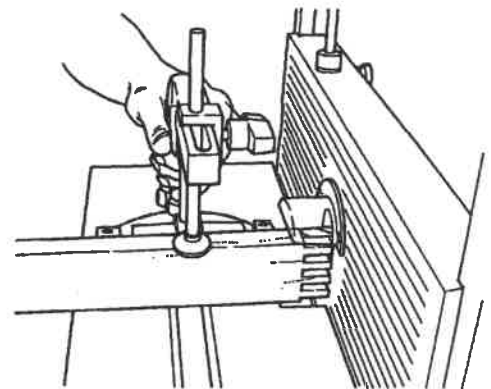

Fig. C-5
12. Turn off the router and Dust Collector, then repeat Step 8. Make the cut on "B". Continue alternating the workpieces until you run out of wood to cut on either workpiece, as in Fig. C-5. Notice that the guard is installed when the cutting bit is exposed.